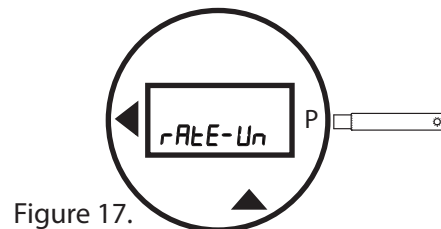

Figure 17.
- Pass the wand over the **P** to enter the lock code. The menu selection **rAtE-Un** will appear (Figure 17). This is the first item in the first menu level.